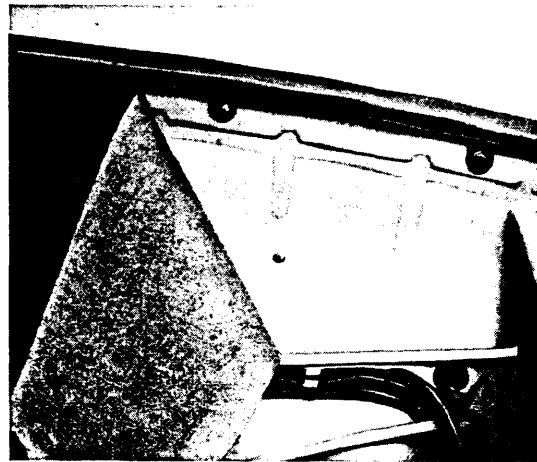

Fig. 1
- 1 - Disconnect battery and take luggage compartment lining out. Detach side panel lining for about 300 mm on both sides (Fig. 1). Take out spare wheel and jack and remove spare wheel well.